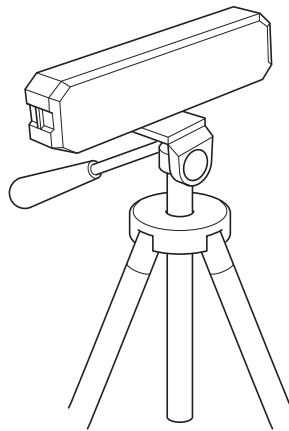

Fig 3
- The multi-function base has a standard M6.35x1.25 thread for attaching to a tripod (not included) (Fig. 3). This is ideal for levelling kitchen cabinets, counter tops, window framing, and so on.